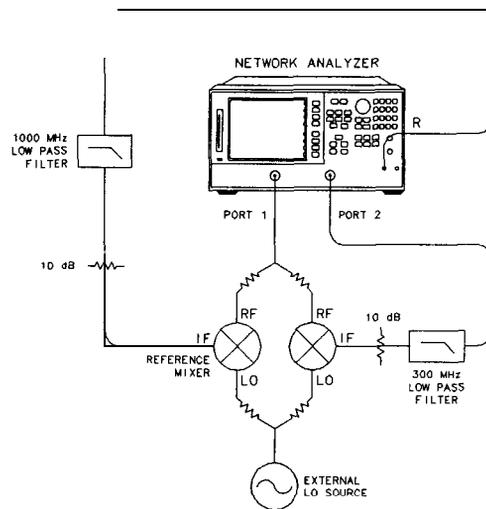

Figure 3-10.
7. Make the connections shown in Figure 3-10.